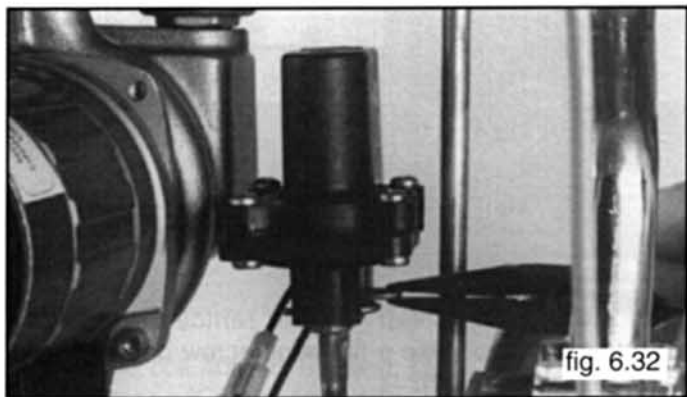

fig. 6.32
- 1 Remove spring clips using bull nosed pliers (see fig.6.32).